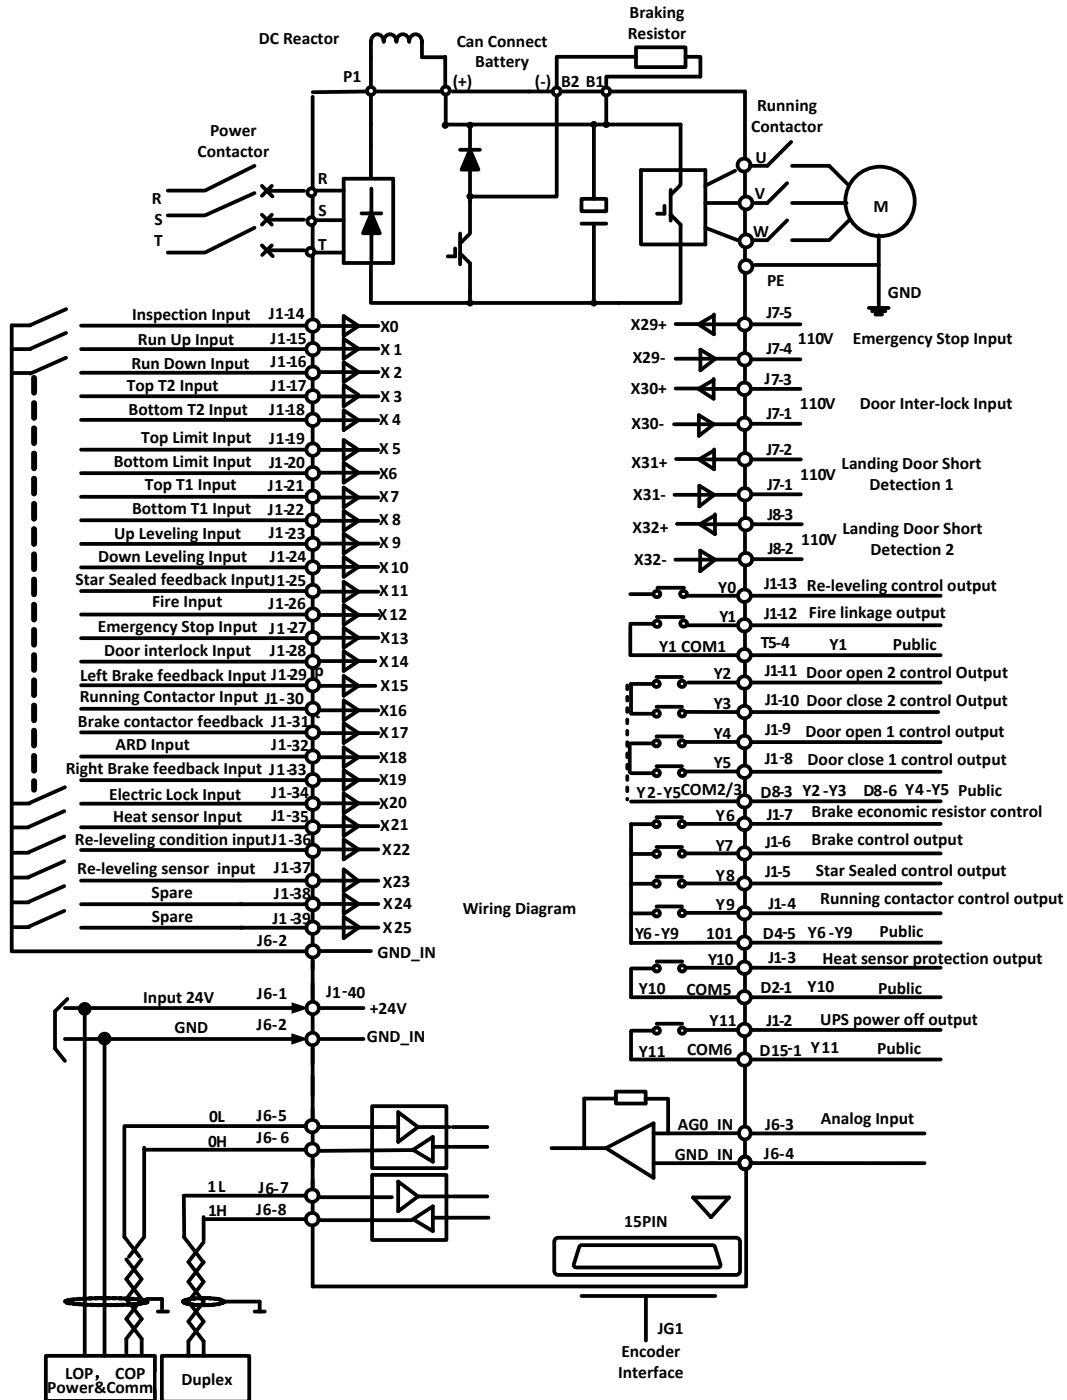

Figure 3.1 Thermal wiring Diagram for modularization elevator integrated controller
3.3.2 Terminal Connection for Control Circuit (Figure 3.1)